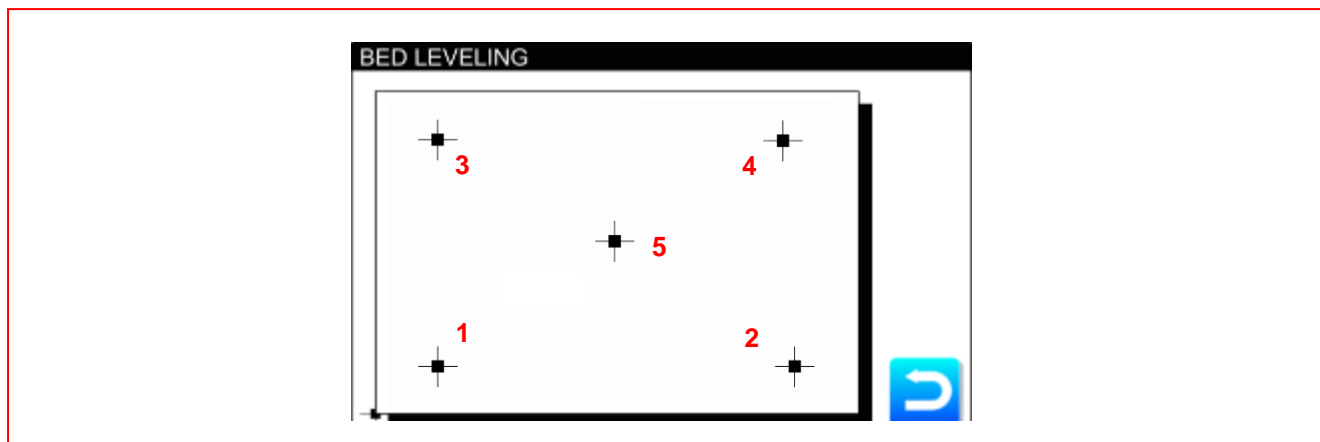

Figure 2-5 Bed Levelling Display
4. Touch the display at bottom left (Position 1 in Figure 2-5). The extruder assembly moves to this first adjustment point.